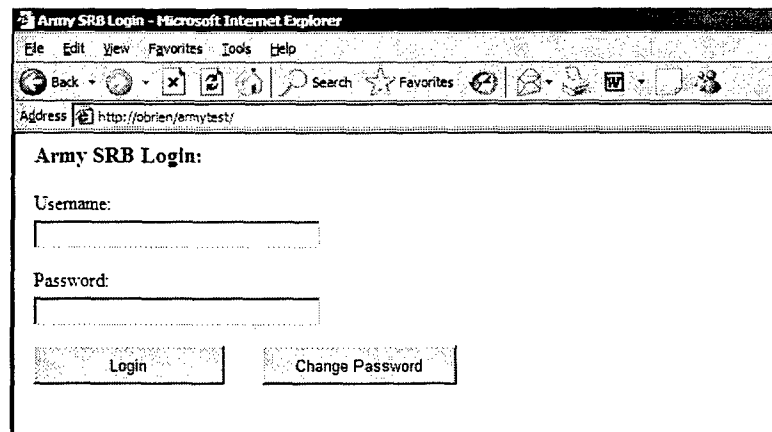

Figure 37. Login Screen
2. At the login screen shown in Figure 37, enter a valid Username and Password. Both are case-sensitive. Click the *Login* button.